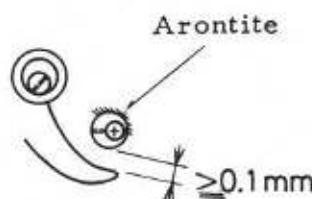

Fig. 26
- Note: 1. There should be more than 0.1mm gap exist as shown in Fig. 26.